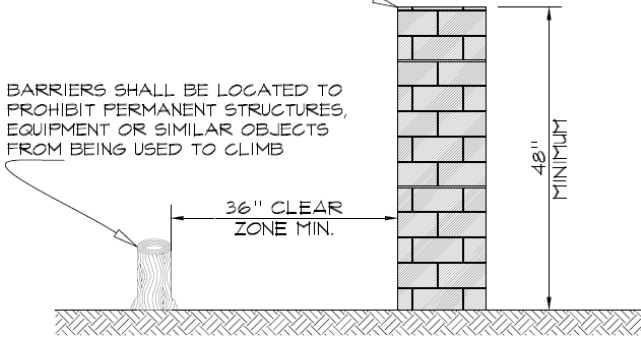

Figure 1
3. Solid barriers which do not have openings, such as a masonry or stone wall, shall not contain indentations or protrusions except for normal construction tolerances and tooled masonry joints. **See Figure 1**.